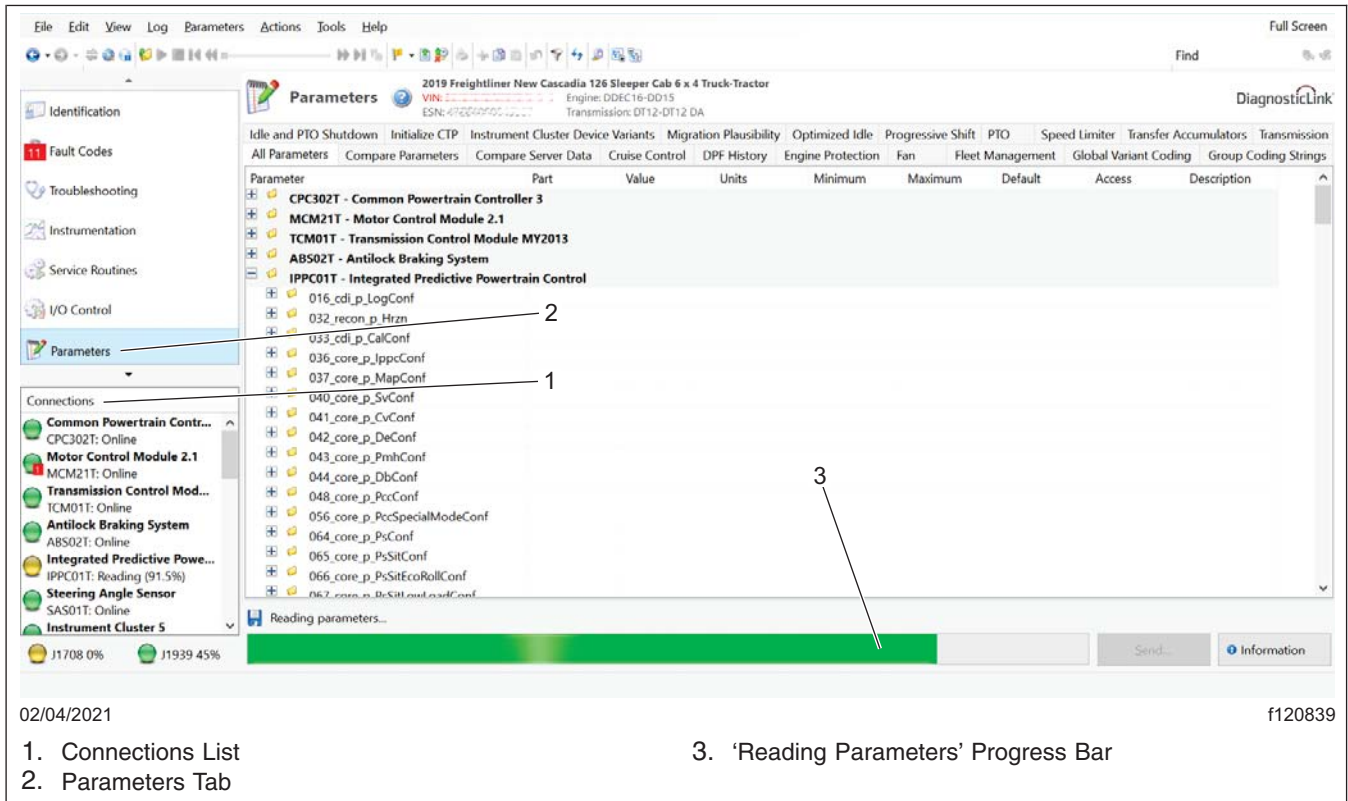

Fig. 3, Connecting Default ECUs and Reading Vehicle Parameters in DiagnosticLink
- Open the 'Parameters' tab, and allow the parameters to be read completely by DiagnosticLink, as indicated by the status bar at the bottom of the screen. See Fig. 3.